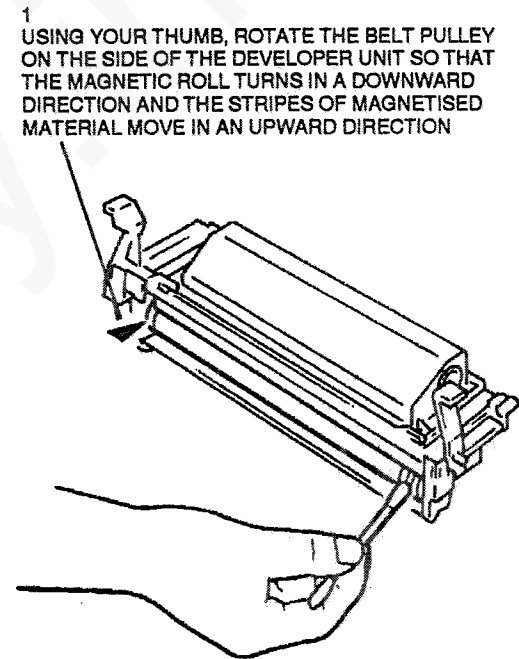

Figure 4. Magnetic roll cleaning
8. (Figure 4) Clean the ends of the magnetic roll. Gently shake the developer unit from side to side after cleaning to ensure that the toner in the developer unit is evenly distributed.